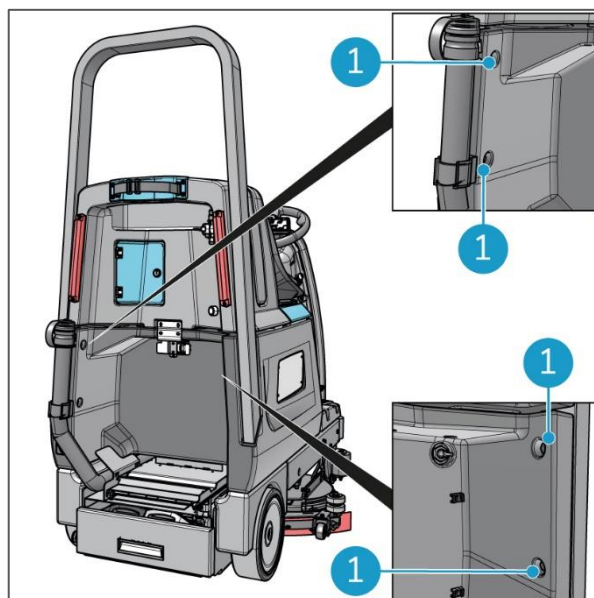

Figure 13
1. Place the i-mop bar on the backside of the i-drive (Figure 13).
2. Tighten the 4 bolts (Figure 13, pos 1) (Torque is 15 Nm).